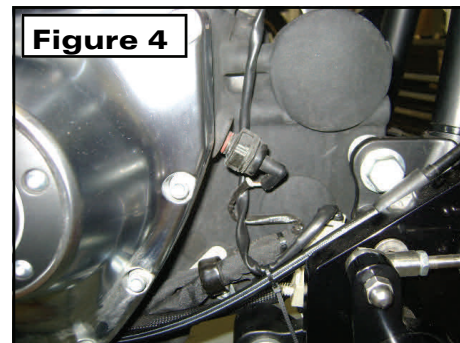

Figure 4
6. Reconnect oxygen sensors to wiring harness. Re-route the front oxygen sensor by removing the connector from the retaining clip and routing it up behind the front foot controls. Secure with plastic tie-wraps included in hardware kit. **(See Figure 4)**